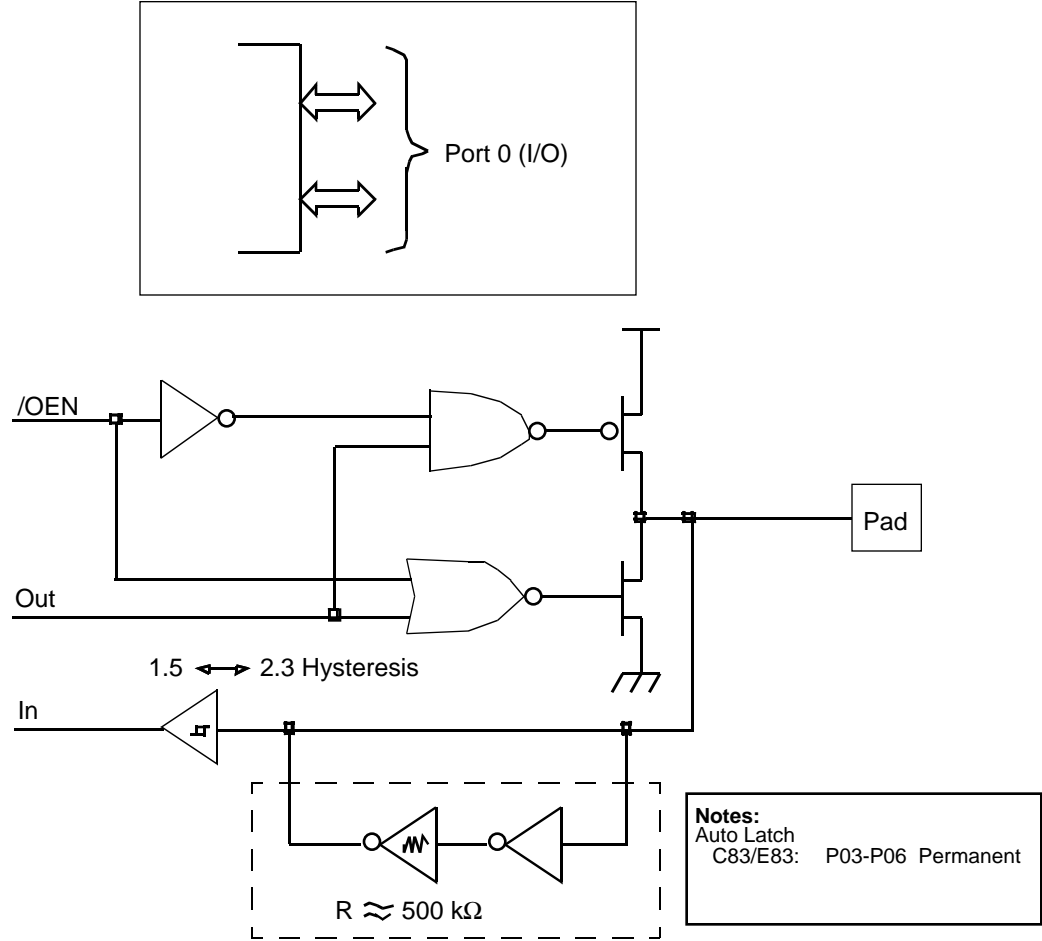

Figure 10. Port 0 Configuration
**Port 0 P00-P06** (P03-P06 is not available on the Z86C84). Port 0 is a 7-bit, bidirectional, CMOS-compatible I/O port. These seven I/O lines can be nibble programmable as P00-P03 input/output and P04-P06 input/output, separately (Figure 10). All input buffers are Schmitt-triggered and output drivers are push-pull.